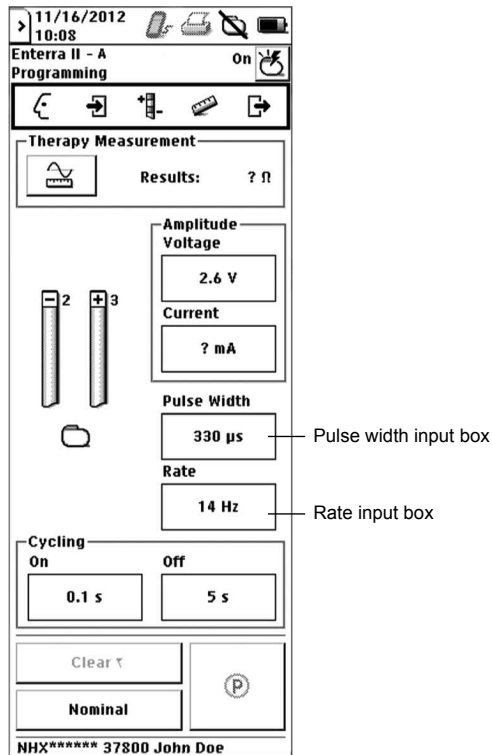

Figure 23. Programming pulse width or rate on a program tab.
2. Select the **Pulse Width** input box or the **Rate** input box (Figure 23).